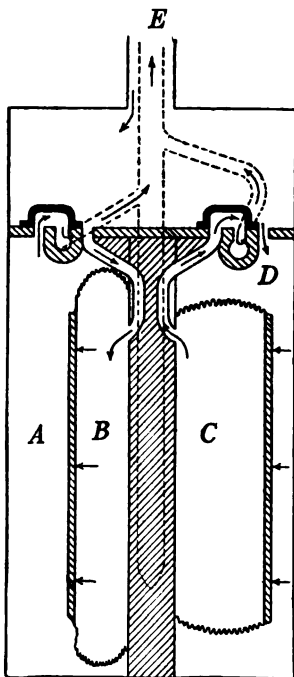

FIG. 51.—Cross-section of a gas meter showing its construction and action.
**69. The Gas Meter.**—The gas meter consists of a box divided into two parts by a vertical partition (Fig. 51). Two bellows are attached to this partition, one on each side. The valves that regulate the flow of gas to and from the bellows and the chambers *A* and *D* are opened and closed by levers connected with the bellows. These levers also operate the hands upon the dials. When the inlet to the bellows *B* is opened, the outlet of *A* is also opened. Gas entering *B* opens the bellows and forces the gas in *A* out into the house-pipe *E*. When *B* is full its inlet valve closes and its outlet valve opens. The inlet of *A* also opens and its outlet closes. Gas now flows into *A*, compressing the bellows and *B*, and forcing the gas from it into the house-pipe. At each filling of the bellows *B* there will be displaced from *A* and forced into the house-pipe as much gas as enters *B*. It is evident that at each emptying of *B* an equal amount of gas enters *A*. Thus we have *A* and *B* alternately filling and emptying as long as the gas burner is open. To have a continuous flow of gas in the house-pipes two pipes and two chambers are